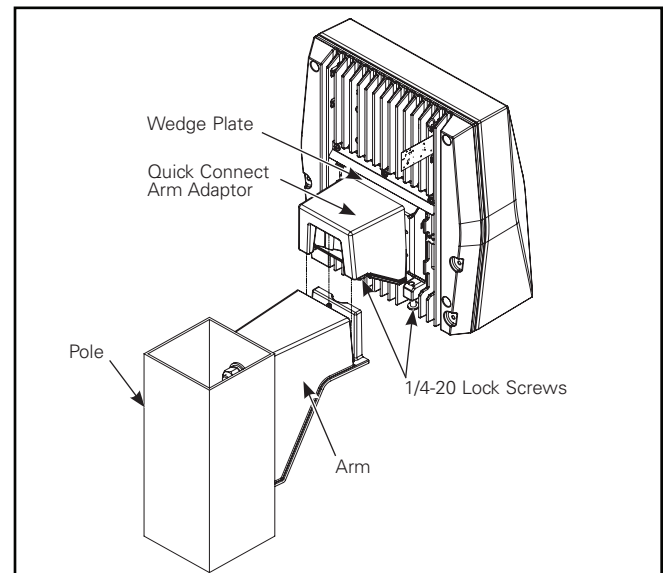

Figure 12.
- Attach the quick-connect adapter to the fixture, pulling the luminaire supply leads through the wedge plate center hole. Tighten the (2) $\frac{1}{4}$ -20 lock screws on the fixture to 20 in-lbs. (Figure 12.)